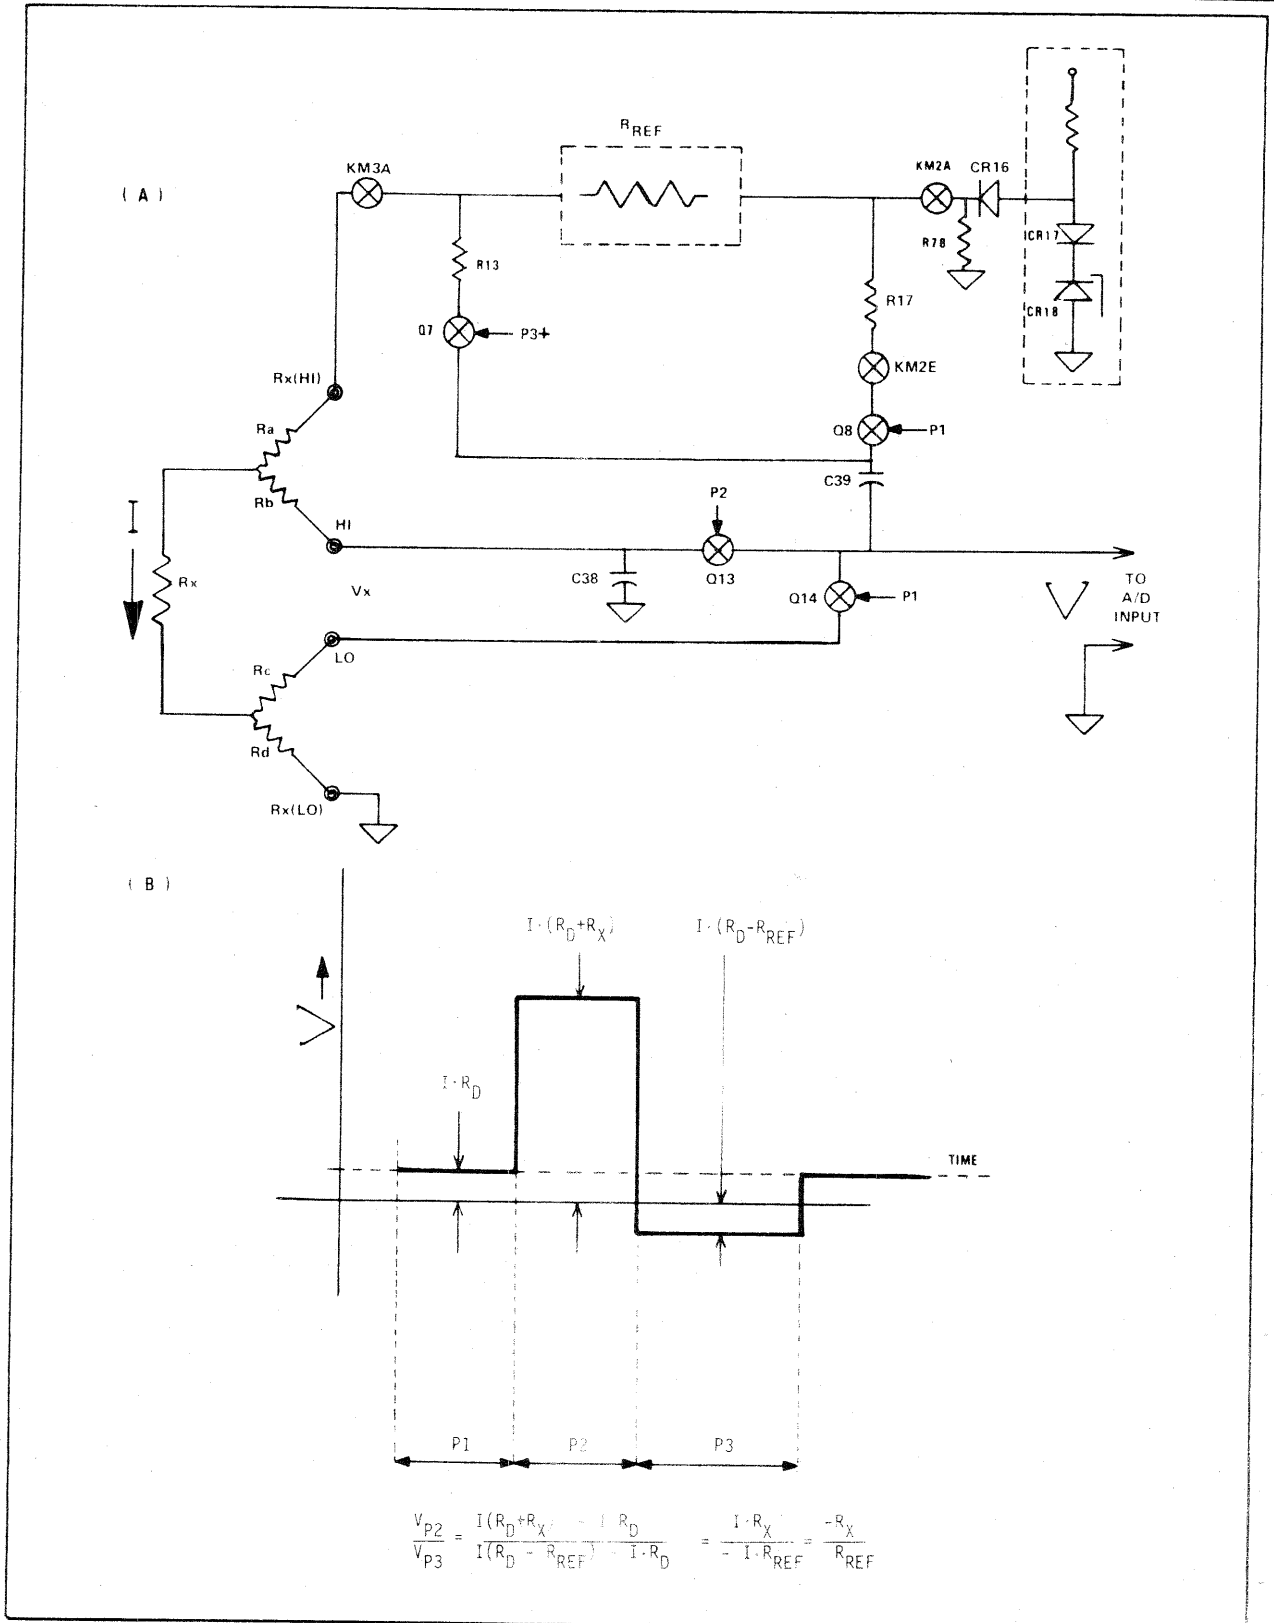

Fig. 4-5. Resistance Measurement. (A) Simplified Schematic (B) Timing Waveforms
4.4.3 Resistance Mode Signal Conditioning (Figure 4-5).